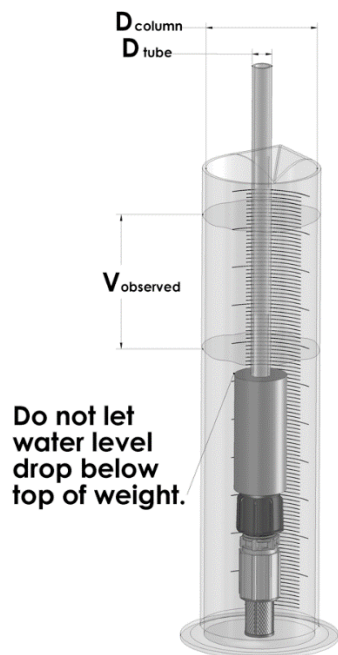

Figure 20: Graduated Cylinder
sure the fluid surface area remains constant during calibration, e.g., the fluid remains above the foot valve weight as shown in Figure 20.
- e. Take the final reading of fluid volume in mL. If using a scale, divide the difference between beginning and ending weights in grams by the specific gravity of the chemical solution being pumped. If using a graduated cylinder with a foot valve inserted (Figure 20), the readings will need to be adjusted to compensate for the presence of the suction tubing using the following formula: